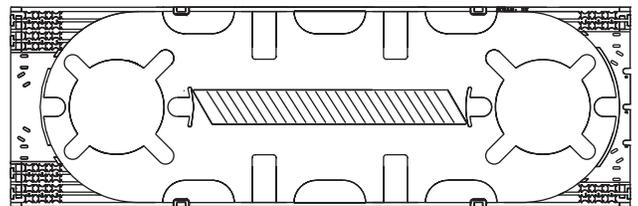

Figure 2
- For single-fiber heat shrink fusion and mass fusion heat shrink splices, install the long rubber organizer by peeling off the backing and pressing the organizer into the recess in the center of the tray (Figure 2).